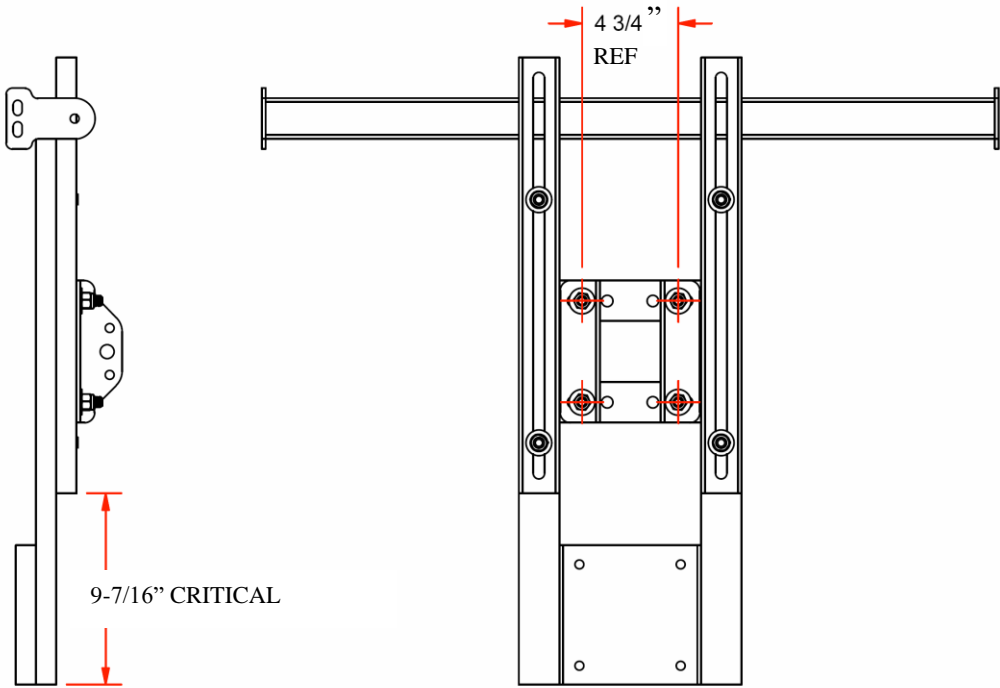

Figure 2
2. Slide the T-Frame on the H-Frame slot channel till the bottom of both frames are at a distance of 9-7/16" (Figure 2) and tighten the carriage bolts down.